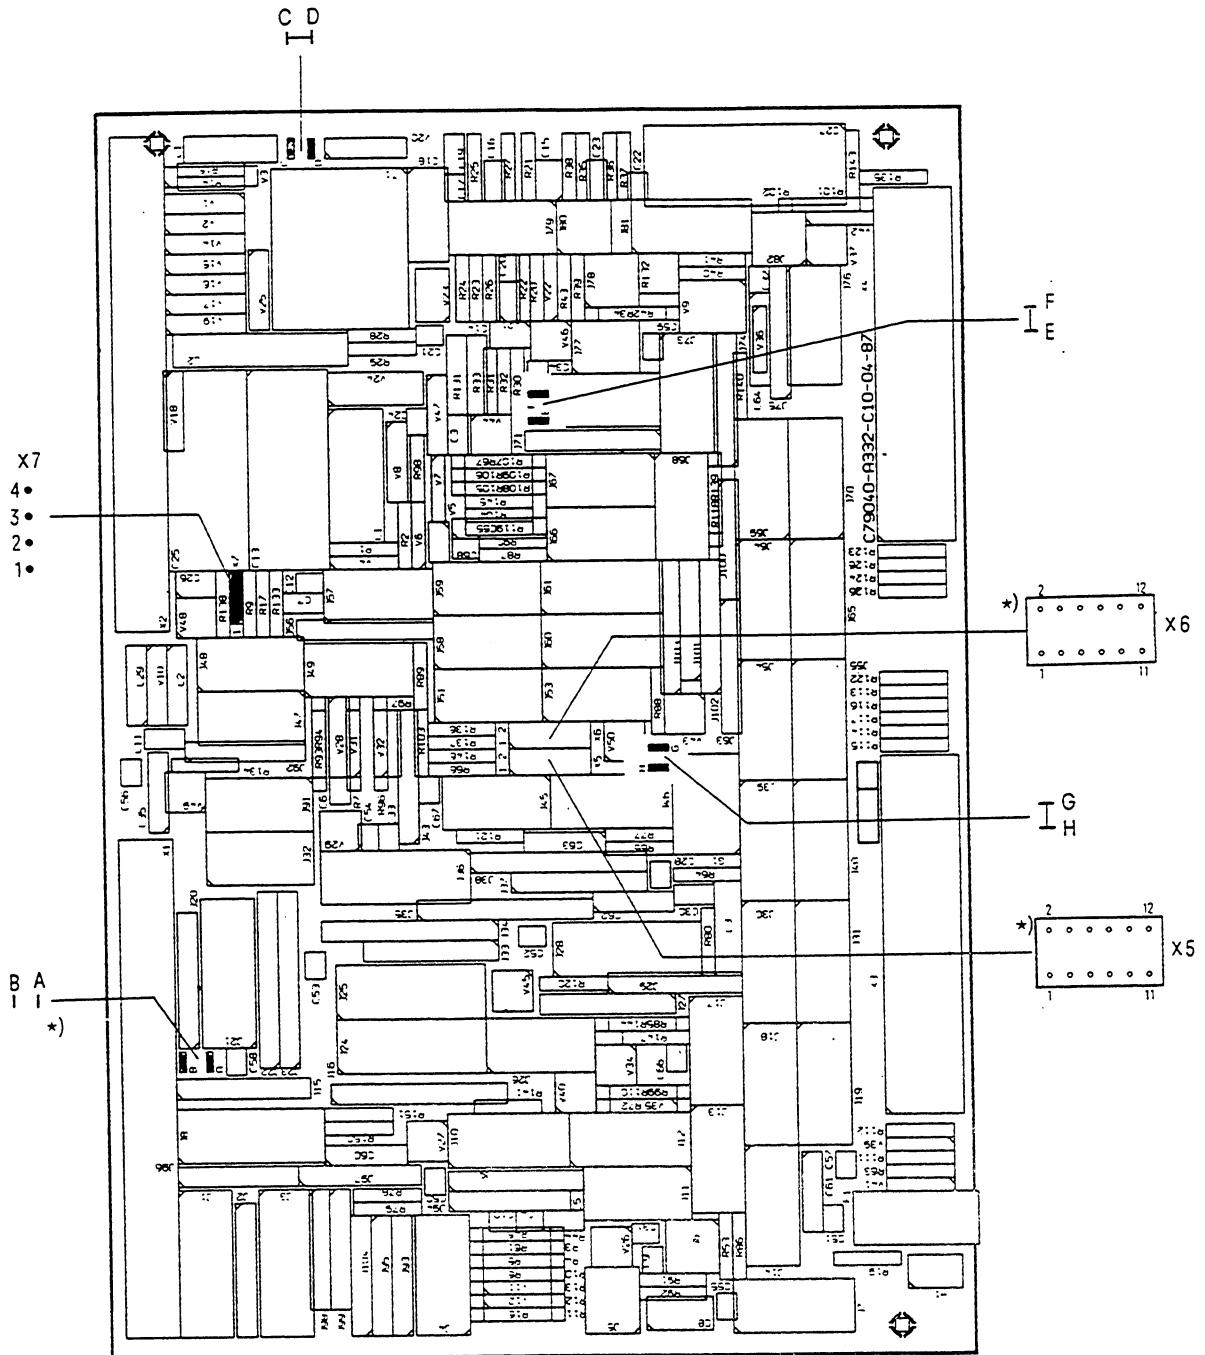

Fig. 2/12 Interface module for ES 100 K 6DS1322-8AA
- Loosen screws connecting subrack to housing (see Fig. 2/3).
The process cables are inserted into the ES 100 K housing from below. The screens must be connected to the cable clamping rails. A differentiation must be made between a braided screen (Fig. 2/5) and a foil screen (Fig. 2/6). The process cables are connected to the process connection panel PA using the Maxi-Termi-Point system (MTP).